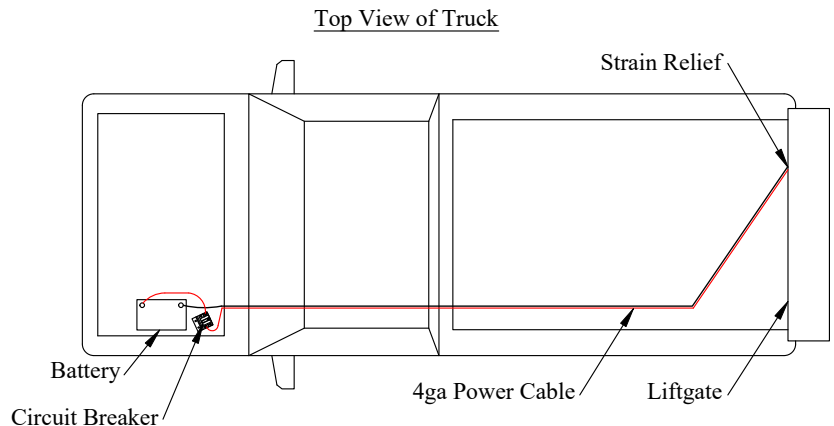

Figure 21: Electrical routing.
3. **Loosen** the strain relief on the back of the liftgate mainframe (Figure 21).
4. **Pull** the power cable (coiled up in the liftgate mainframe) carefully through the strain relief. Leave approximately two (2) inches of slack inside the liftgate mainframe (Figure 21).
6. **Route** the power cables along the frame (Figure 21) to the battery following the *Tommy Gate Recommended Electrical Wiring Guidelines*.